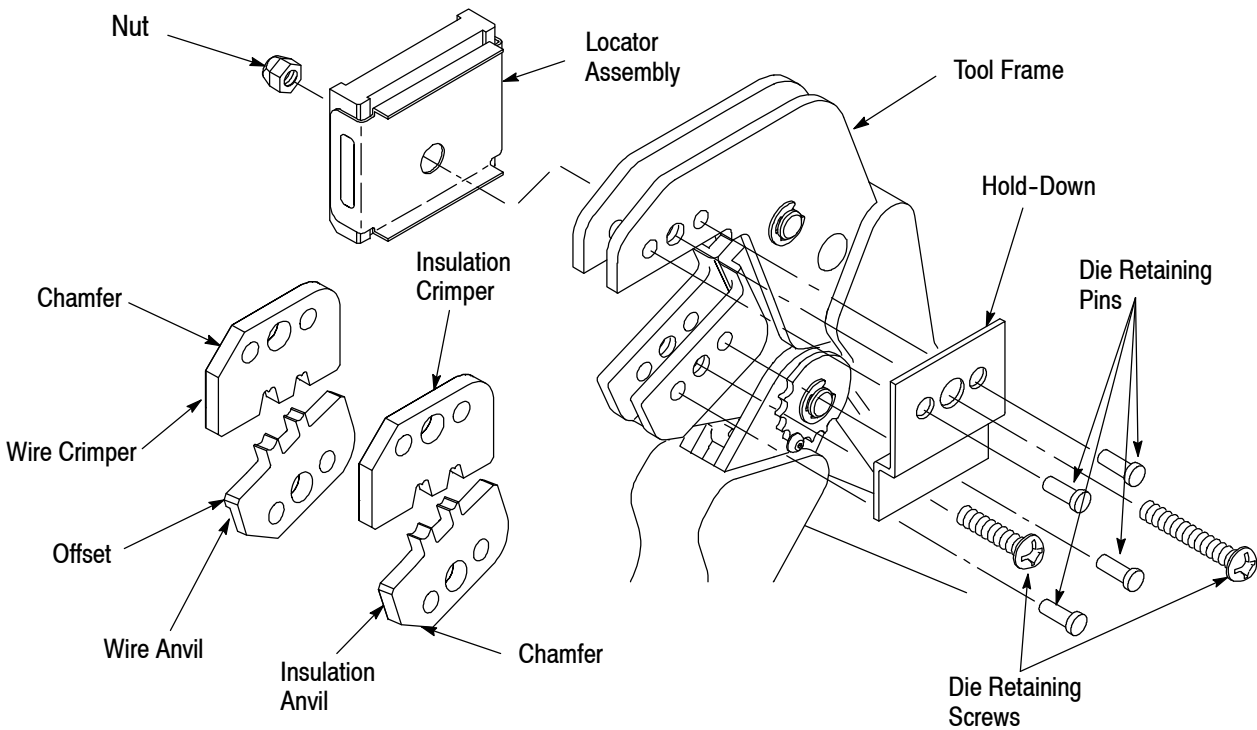

Figure 2
2. DESCRIPTION (Figures 1 and Figure 2)
3. INSTALLATION AND REMOVAL OF DIE SET AND LOCATOR ASSEMBLY (Figure 2)